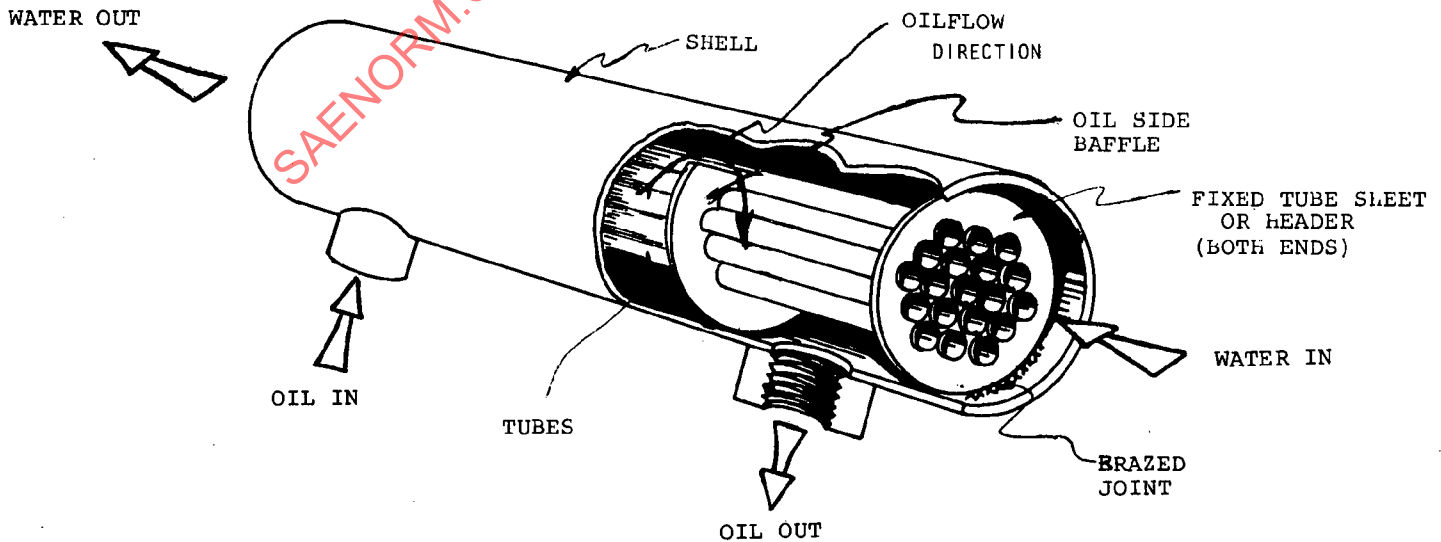

FIG. 3—SHELL AND TUBE OIL TO WATER COOLER—FIXED BUNDLE
4.10 **Fixed Bundle Oil Cooler**—A shell and tube heat exchanger with the tube bundle permanently installed in the shell. See Fig. 3 in Nomenclature.